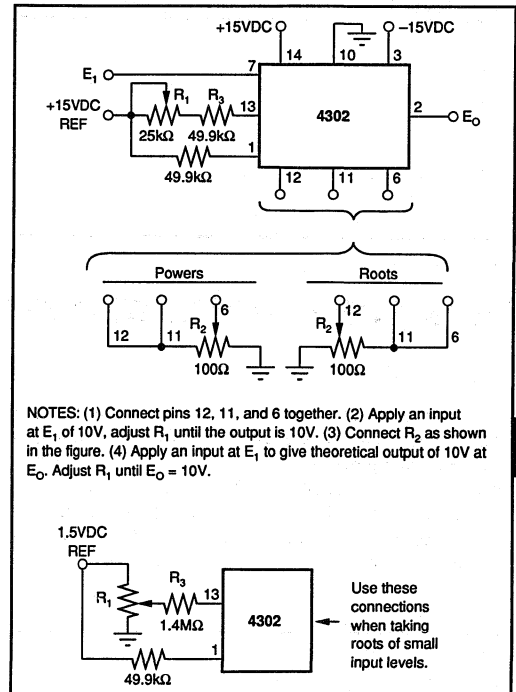

FIGURE 4. Exponential Functions.
(3) For greater conversion accuracy R_2 and R_3 may be replaced by a potentiometer as shown in Figure 4.